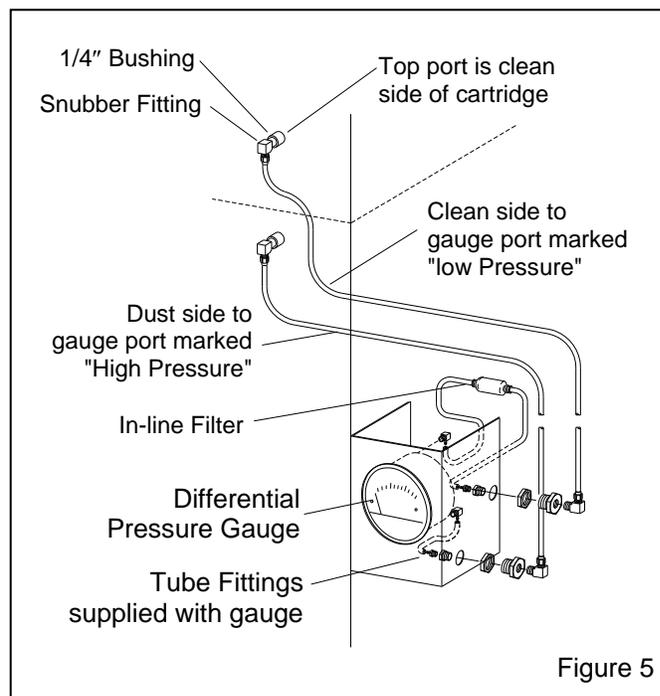

Figure 5
3.4.2 Remove 1/4" pipe plugs from dust collector body, and install 1/4" x 1/8" bushings and snubber fittings as shown in Figure 5.